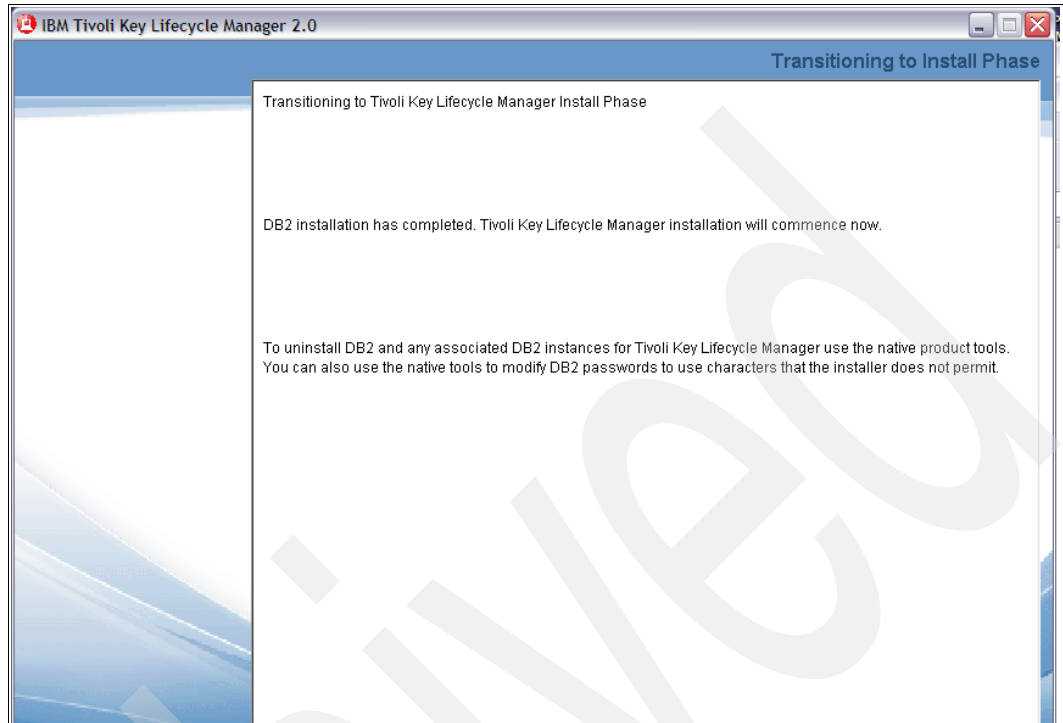

Figure 6-9 TKLM\_v2\_inst\_start
9. The next screen indicates that DB2 installation is complete and that TKLM installation will take place (Figure 6-9). Click **Next**.